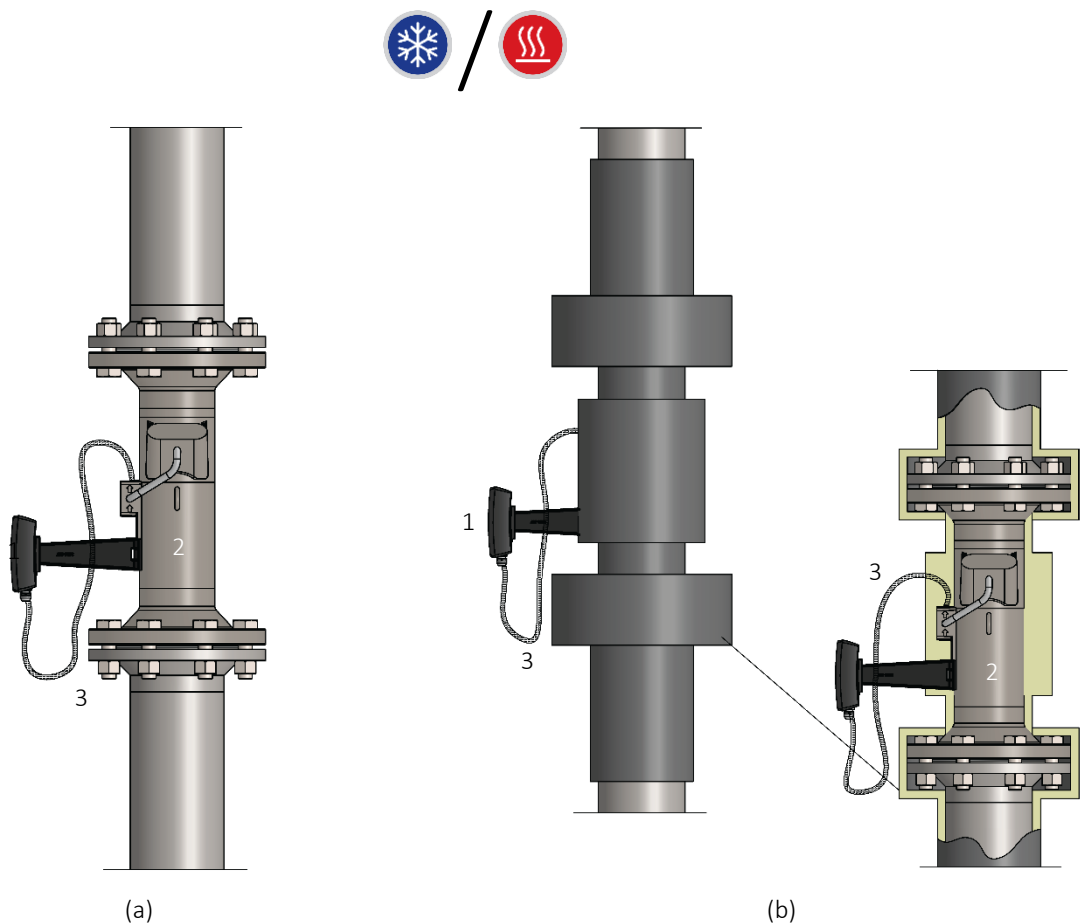
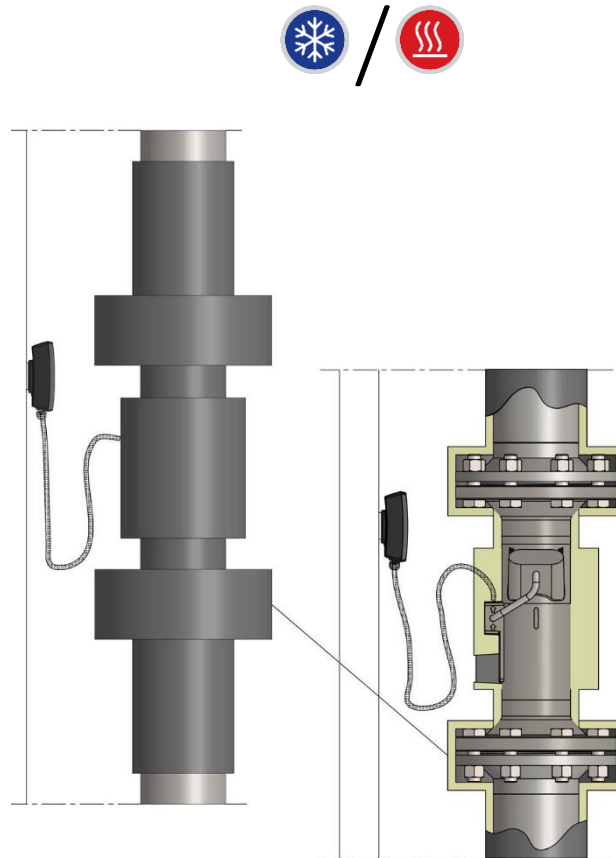

Figure 16. Non-insulated ULTRAFLOW® 54 (DN150-300)
Figure 17. Insulation of ULTRAFLOW® 54 (DN150-300). The electronics box is mounted on the wall.
*Table 10* gives a general overview of the insulation recommendations for Kamstrup flow and temperature sensors. *Figure 16* and *Figure 17* illustrate specifically the insulation of ULTRAFLOW® 54 DN150-300.
If the temperature of the medium is below ambient temperature or above 90 °C or the flow sensor is insulated, the electronics of the flow sensor must be mounted via the enclosed long bracket as shown below (Figure 16) or mounted on the wall (Figure 17). This is to avoid excessive thermal transport from the flow sensor housing causing condensation in the box/excessive heating of the electronics. Alternatively, the electronics box can be wall-mounted at a suitable distance (min. 170 mm) to any cold/hot parts of the installation.